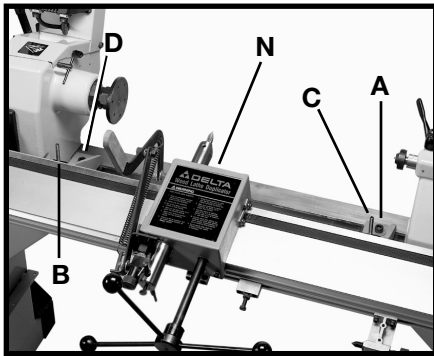
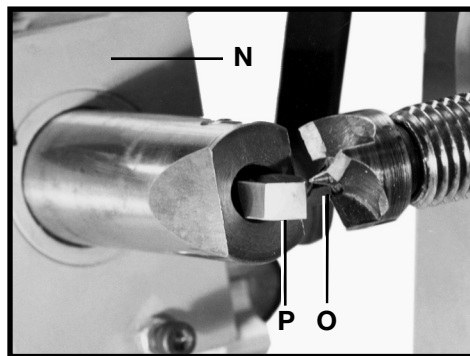
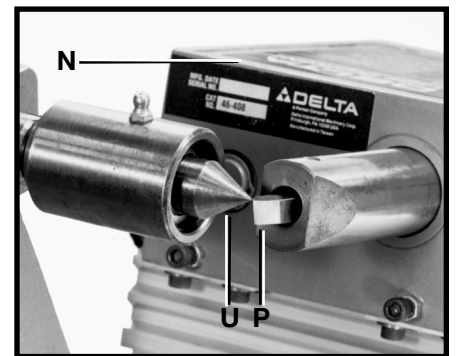
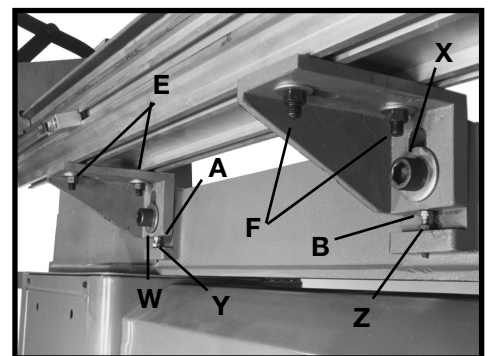

Fig. 53
Fig. 54
Fig. 55
Fig. 56
10. Loosen two socket head bolts (A) & (D) Fig. 53, move duplicator carriage (N) Fig. 53 to the left until point of cutting tool (P) Fig. 54 is on the same plane as the point of the headstock center. Slide duplicator in or out until point of cutting tool (P) Fig. 54 is aligned vertically with point of headstock center (O). Snug-up the left socket head bolts (D) Fig. 53.
- A. Move duplicator carriage (N) Fig. 53 to the right until point of cutting tool (P) Fig. 55 is on the same plane as the point of the tailstock center (U). Slide duplicator in or out until point of cutting tool (P) is aligned vertically (up or down) with point of tailstock center (U).
- B. Lightly tighten socket head bolt (A) Fig. 53. Recheck for vertical alignment of cutting tool with the point of the headstock and tailstock centers. Tighten both socket head bolts (A) & (D).
- C. Move carriage assembly (N) Fig. 53 to the headstock until point of cutting tool (P) Fig. 54 is on the same plane (up or down) with headstock center (O).
- D. If the point of cutting tool (P) Fig. 54 is not contacting headstock center (O), turn leveling screw (B) Fig. 53 clockwise or counter-clockwise to raise or lower cutting tool until the edge of cutting tool (P) Fig. 54 contacts headstock center (O).
- E. Move the carriage assembly (N) Fig. 53 to the tailstock until the point of cutting tool (P) Fig. 55 is on the same plane with tailstock center (U).
- F. If the point of cutting tool (P) Fig. 55 is not contacting tailstock center (U), turn leveling screw (C) Fig. 53 clockwise or counter-clockwise to raise or lower cutting tool until the edge of cutting tool (P) Fig. 55 contacts tailstock center (U).
- H. After alignment is complete, remove leveling screws (B) and (C) Fig. 53.
- I. Firmly tighten mounting bolts (A) & (D) Fig. 53.
10. Loosen four socket head bolts (E) and (F) Fig. 56. Move duplicator carriage (N) Fig. 54 to the left until point of cutting tool (P) is in the same plane with point of headstock center (O). Slide duplicator (N) Fig. 53 in or out until point of cutting tool (P) Fig. 54 is aligned vertically with point of headstock center (O). Snug-up socket head bolt (E) Fig. 56.
- A. Move duplicator carriage (N) Fig. 53 to the right until point of cutting tool (P) is in the same plane with point of tailstock center (U). Slide duplicator (N) Fig. 53 in or out until point of cutting tool (P) Fig. 55 is aligned vertically with point of tailstock center (U). Snug up socket head bolts (F) Fig. 56. Recheck to make certain point of cutting tool is aligned vertically (up or down) with point of the headstock and tailstock centers. Tighten four socket head bolts (E) and (F) Fig. 56.
- B. Move duplicator carriage (N) Fig. 53 to the headstock until point of cutting tool (P) Fig. 55 is on the same vertical plane with headstock center (O).
- C. If the point of cutting tool (P) Fig. 54 is above or below the headstock center (O), loosen two bracket bolts (W) and (X) Fig. 56. Loosen locknut (Y) and turn leveling screw (A) Clockwise or counter-clockwise to raise or lower the point of the cutting tool until it contacts the center point.
- D. Move the duplicator carriage (N) Fig. 53 to the tailstock until the point of cutting tool (P) Fig. 55 is on the same plane with tailstock center (U). Loosen locknut (Z) Fig. 56 and turn leveling screw (B) clockwise or counter-clockwise to raise or lower the point of the cutting tool until it contacts the center point.
- F. Firmly tighten two locknuts (E) Fig. 56. Tighten mounting bolts (W) & (X), Fig. 56.